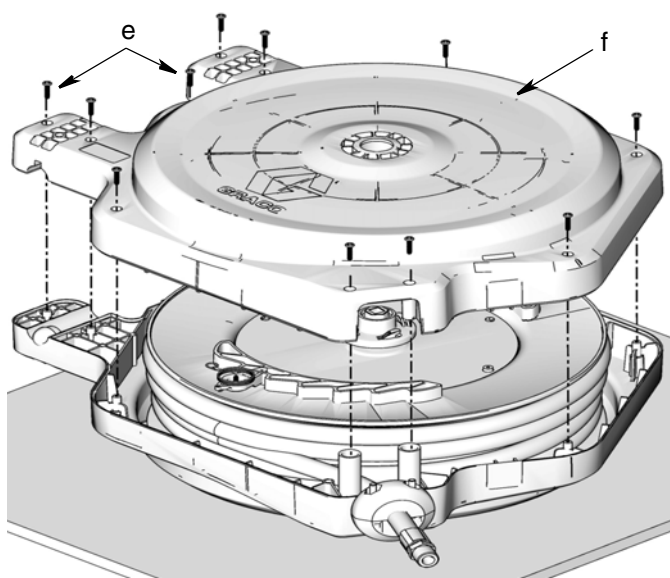

FIG. 23
6. Install enclosure (f) and all screws (e). Tighten screws securely (FIG. 23).